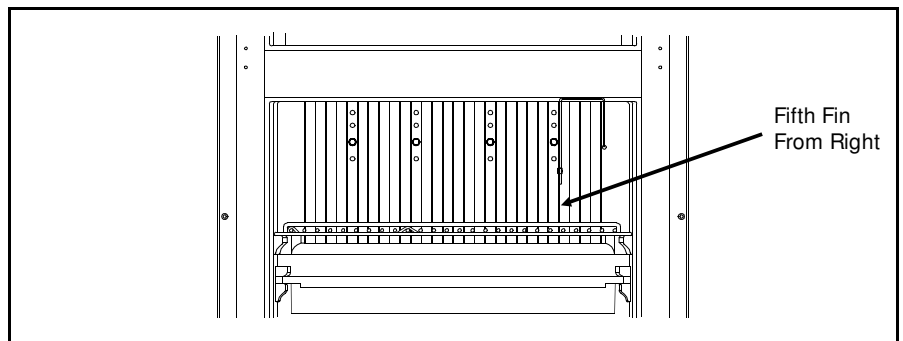

Figure 3.31 Capillary Tube Location
6. The capillary tube must be attached to the 5th fin as shown in Figure 3.31.